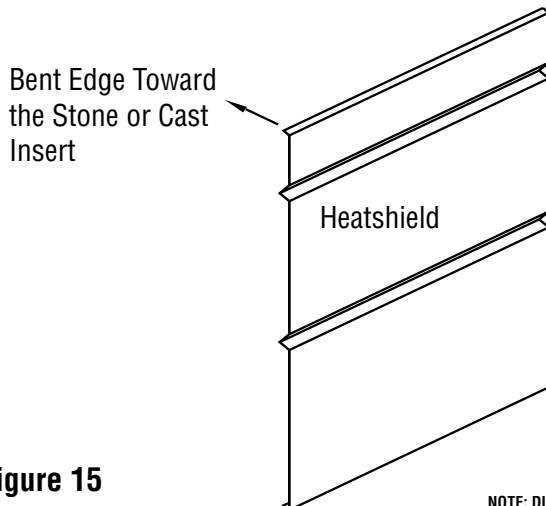

Figure 15
3. Slide the cast iron or stone side inserts (size 15.5" x 10.5") (with the desired surface facing out) in behind the lower retaining bracket E. See Figures 15, 16, and 17. Note that the cast iron inserts are reversible - both sides have different designs.
4. Slide the heatshield (with the bent edges toward the cast or stone inserts - Figure 15) in between the cast or stone insert and the lower retaining bracket E.